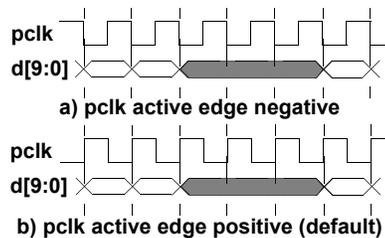

Figure 42. pclk in Free Running Mode
- In free running mode, (the *PixClkMode* bit of DVBUSCONFIG1 register is set to a logic 0), the pixel clock output pin, **pclk**, is always running with a fixed period. Pixel data appearing on the digital video bus **d[9:0]** are synchronized to a specified active edge of the clock as shown in Figure 42.